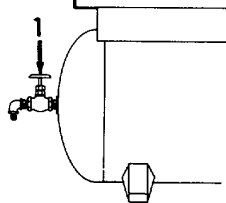

Figure 2-6. Air Shut-Off Valve Opening.
- d. Refer to Figure 2-6. Open the air receiver tank air shut-off valve (1) and allow the air to enter the flexible hose.